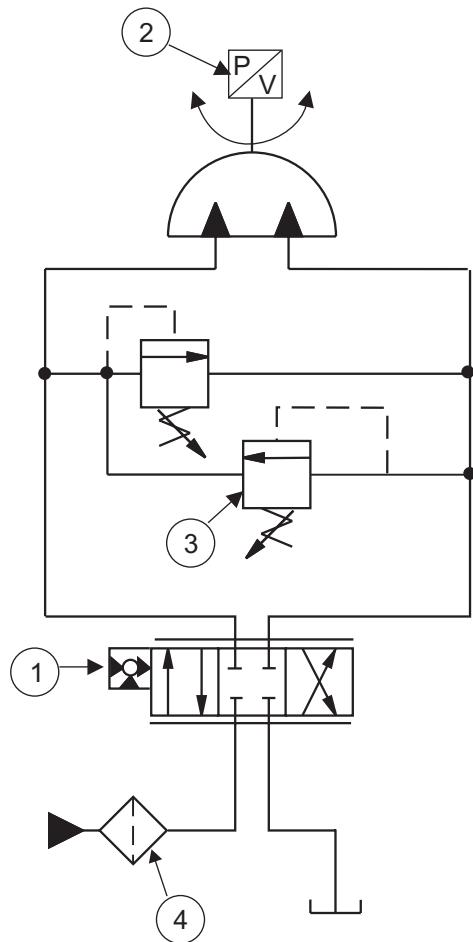

Figure 18 *Electrohydraulic rotary actuator circuit*
The use of electrohydraulic components for rotary actuator applications can provide greater system flexibility. Figure 18 is a representative circuit showing some possible applications of electrohydraulic valves. Proportional or servo control valves (1) can provide continuous position, velocity or acceleration control of loads, and "closing the loop" around a position feedback device and can provide even greater control and velocity profiles for overcenter or varying loads. Even more precise position control is possible with the use of vane actuators or anti-backlash devices on rack and pinion units.